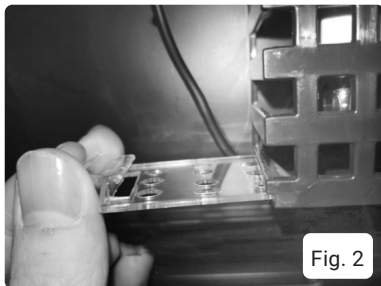

Fig. 2
- Slide out the bulb cover and put it somewhere safe. (Fig. 2).